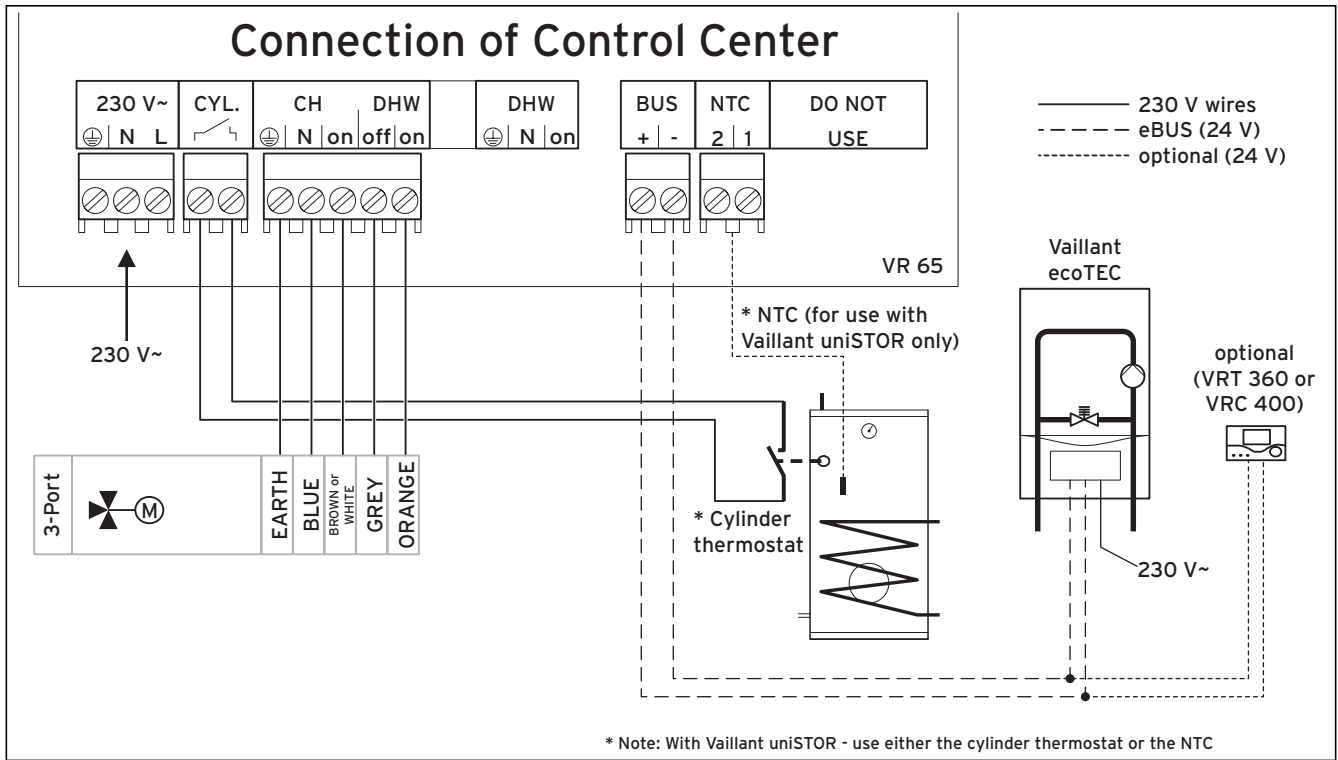
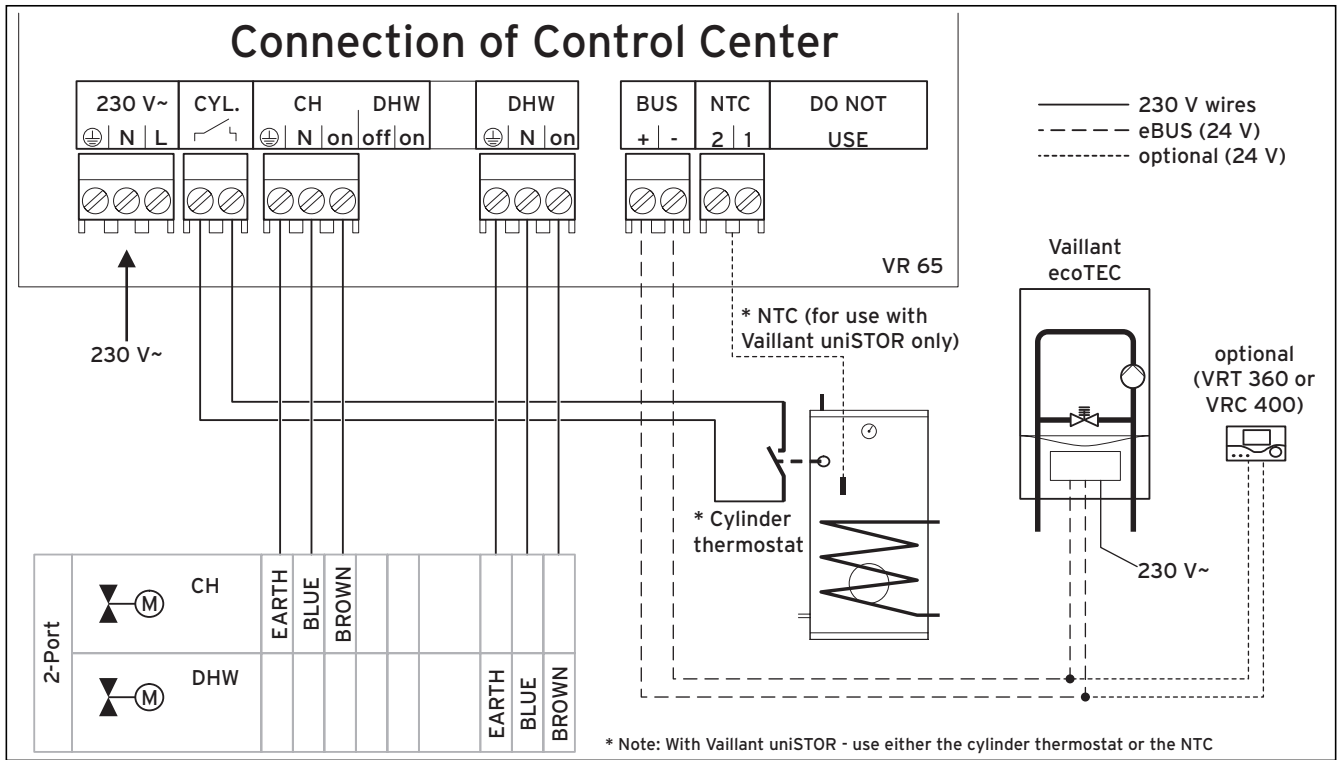

Fig. 5.2 Connection with 3-port valve
Fig. 5.3 Connection with two 2-port valves
- Mark out the 2 fixing holes (2) and drill the holes.
- Wire up the Control Center as shown in the wiring diagrams (fig. 5.2 or 5.3).
- Fix all cables using the cable clamps (3).
- Wire up the Control Center as shown in fig. 5.2.
- Wire up the Control Center as shown in fig. 5.3.
- The NTC is wired into the VR 65 as shown in fig. 5.2 or fig. 5.3.